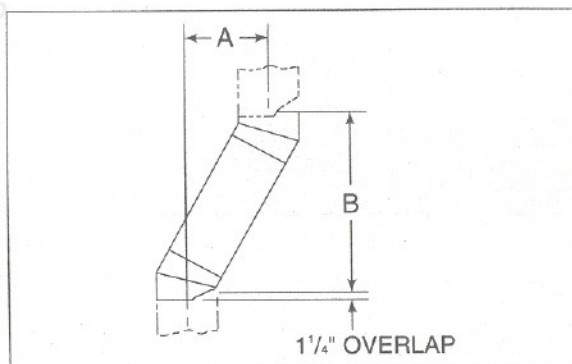

Figure 8
1. Measure how far the chimney needs to be shifted to enable it to avoid the overhead obstacle. See Figure 8 (page 12), dimension "A".
Example: Your "A" dimension from Figure 8 is 14½". Using Table 1, the dimension closest to but not less than 14½" is 14¾" using a 30° offset/return. It is then determined from the table that you would need 33¾" (Dimension "B") between the offset and return. The chimney components that best fit your application are two SL312's.